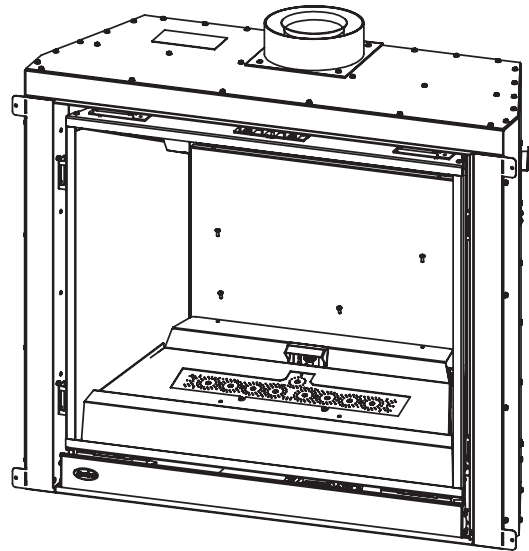

Figure 10. Removing Glass Tray
**Step 2:** Remove the glass media and the enameled glass tray as shown in Figure 10.